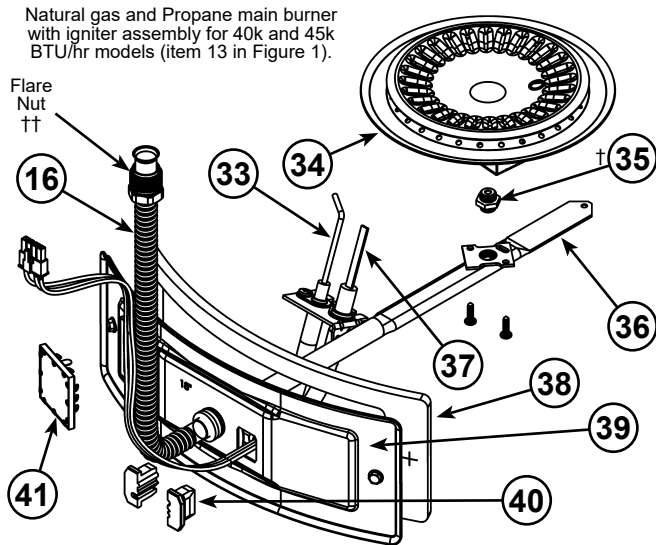
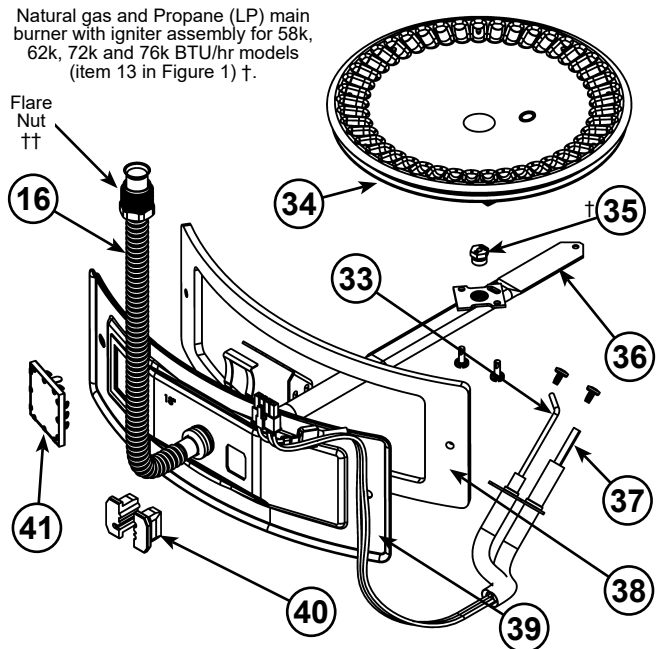
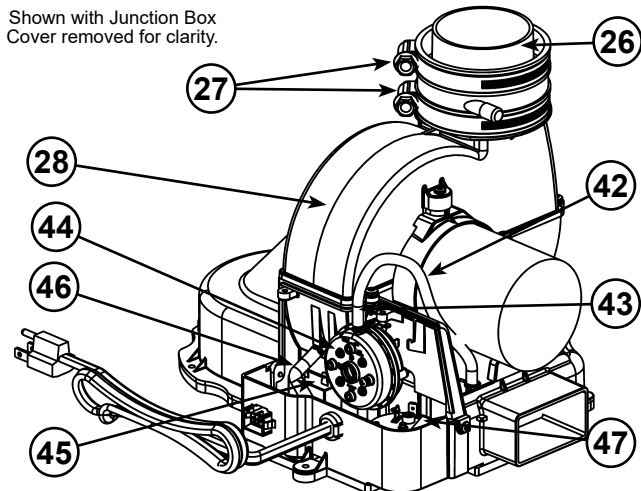

Figure 3.
Figure 4.
Figure 5.
| 1 Termination Elbow with Vent Screen | 16 Flexible Manifold Tube (see Figure 3 & Figure 4) | 35 Gas Orifice (see Figure 3 & Figure 4) |
| 2 *Vent Pipe | 17 ***Control Harness | 36 Gas Manifold (see Figure 3 & Figure 4) |
| 3 *Vent Pipe Elbow (long radius) | 18 *Sediment Trap | 37 Hot-Surface Igniter (see Figure 3 & Figure 4) |
| 4 *Union (Di-electric water connection) | 19 *Ground Joint Union (gas connection) | 38 Manifold Door Gasket (see Figure 3 & Figure 4) |
| 5 Cold-Water Inlet Nipple/Diptube | 20 *Main Manual Gas Shut-off Valve | 39 Manifold Door (see Figure 3 & Figure 4) |
| 6 **Combo Heating System Supply Outlet (Optional) | 21 *Gas Supply* | 40 Two Piece Grommet With Clip (see Figure 3 & Figure 4) |
| 7 T&P Valve | 22 Anode (under cap) | 41 Viewport (see Figure 3 & Figure 4) |
| 8 *Discharge Pipe | 23 Baffle Assembly | 42 Air Tubing (Intake) (see Figure 5) |
| 9 **Combo Heating System Return Inlet (Optional) | 24 Hot-Water Outlet Nipple/Anode | 43 Blower High Limit Switch (see Figure 5) |
| 10 Gas Control Valve/Thermostat (Honeywell) | 25 *Inlet Water Shut-off Valve | 44 Intake Air Pressure Switch (NC) (inside box) (see Figure 5) |
| 11 Drain Valve | 26 ***Rubber Coupling (see Figure 5) | 45 Capacitor (see Figure 5) |
| 12 Outer Gas Door | 27 Gear Clamp (see Figure 5) | 46 Air Tubing (Exhaust) (see Figure 5) |
| 13 Manifold Door Assembly (behind outer door) (see Figure 3 & Figure 4) | 28 ***Blower with Power Cord (see Figure 5) | 47 Exhaust Air Pressure Switch (NO) (inside box) (see Figure 5) |
| | 33 Flame Sensor Rod (see Figure 3 & Figure 4) | |
| | 34 Sheet Metal Burner (see Figure 3 & Figure 4) | |
This device is located on the blower (see Figure 5, item 43) and limits the maximum temperature of the blower. If the blower temperature rises above the temperature setting, the switch opens causing the heater to shut down.
The blower/heater is equipped with two air pressure switches located in the junction box (see Figure 5, item 44 and item 47). These devices are connected in series and monitor the air pressure produced by the blower. In the event that the exhaust venting becomes blocked or sufficiently restricted, the normally open (NO) air pressure switch will shut down the heater. In the event that the intake pipe becomes sufficiently blocked or restricted, the normally closed (NC) air pressure switch will shut down the heater.